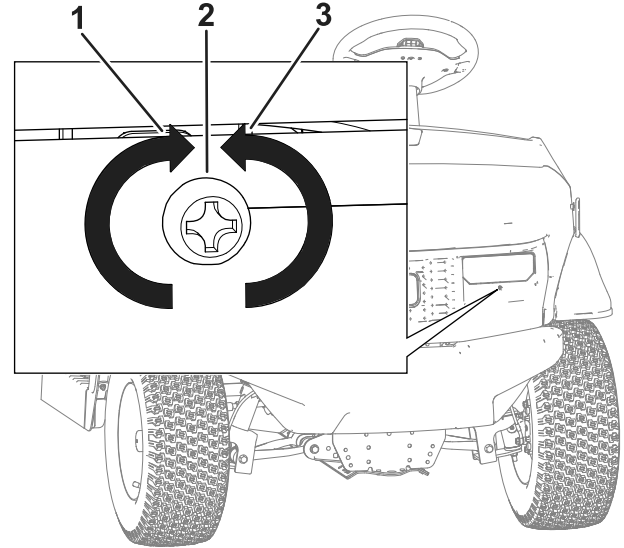

Figure 47
5. At the front of the headlight assembly, rotate adjustment screw to pivot the headlight assembly and align the position of the cast beam (Figure 47).